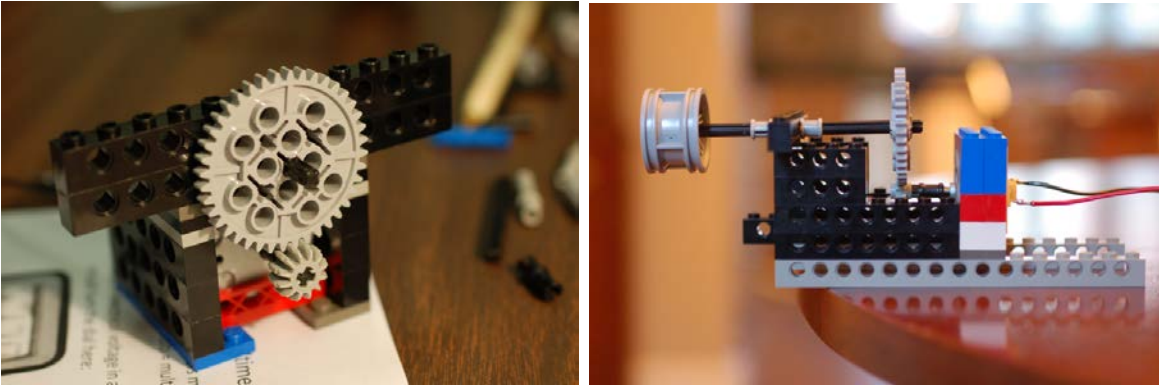

Figure 9. Small gear on motor, large gear attaches to spool.
While this demonstration will not address all the misconceptions students have about forces, it will familiarize them with observing and measuring forces, and seeing that forces come in pairs. Secure a motor to a table top and attach a Lego wheel (without tire) to the shaft so it can wind up a string. See Figure 9. Secure the string to the wheel. Attach a cup to the end of the string so the motor can lift different amounts of weight. Use a battery (or solar cell with light) to make the motor turn. Use rocks or marbles or even Unifix cubes until you find a load that the motor cannot raise. When this happens, decrease the weight a little bit. See if you can find the maximum weight the motor can raise. See how much weight the motor can lift by measuring the weight of the cup with a spring scale. Use the metric unit for weight, Newtons.
Step 3: Pass out a motor assembly, battery in holder, several gears, a string, cup, rocks, select Legos and wheel to each group of students. Pass out the worksheet, “How Gears Help Drive the World.” Challenge them to figure out a way to make their motor able to exert more force. They should create a simple gear train with a small gear on the motor and a larger gear meshed with it. The larger gear should have the wheel, string and cup assembly attached. See Figures 9 and 10. However, see if they can figure this out themselves. Ask, “What did you do to make your motor more forceful?” Have them try and figure out for themselves why gears increase the force output of a motor. Ask, “What did we lose when we increased the force?” More force = less speed, so the geared-up motor spins at a slower rate and pulls the cup of rocks slower. Ask students where they experience gears in everyday life. They may mention bicycle gears or car gears and relate